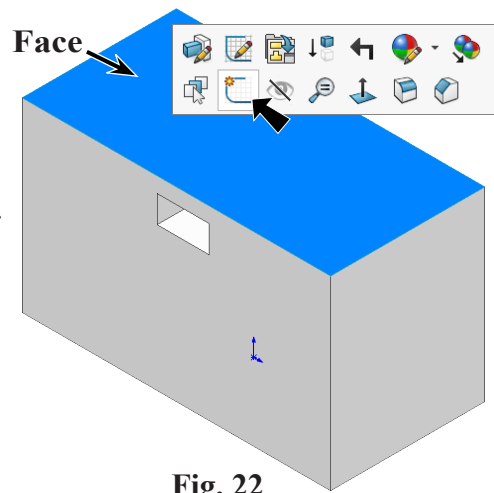
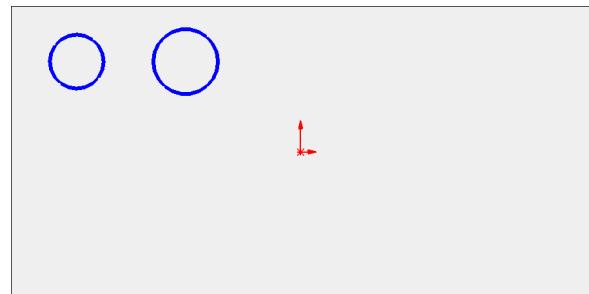

Fig. 22
Fig. 23
Step 1. Click the **top face** and click **Sketch**  on the context toolbar, **Fig. 22**.
Step 3. Click **Circle**  (S) on the Sketch toolbar.
Step 4. Sketch **two circles in top left quadrant**, **Fig. 23**.